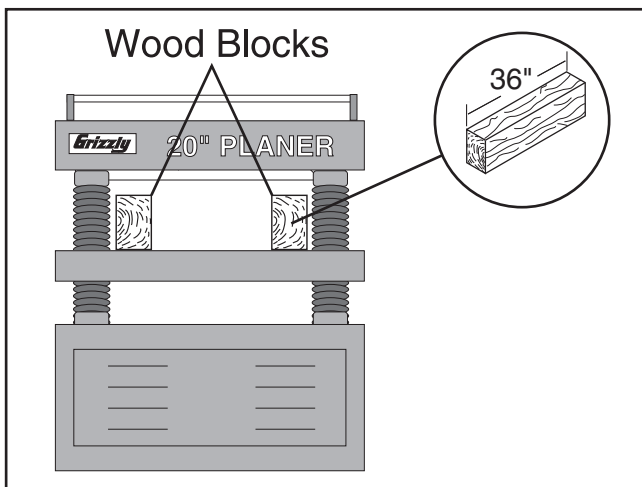

Figure 41. Wood blocks on table.
4. Place one wood block along the left side of the table, and place the other wood block along the right side of the table, as illustrated in **Figure 41**.